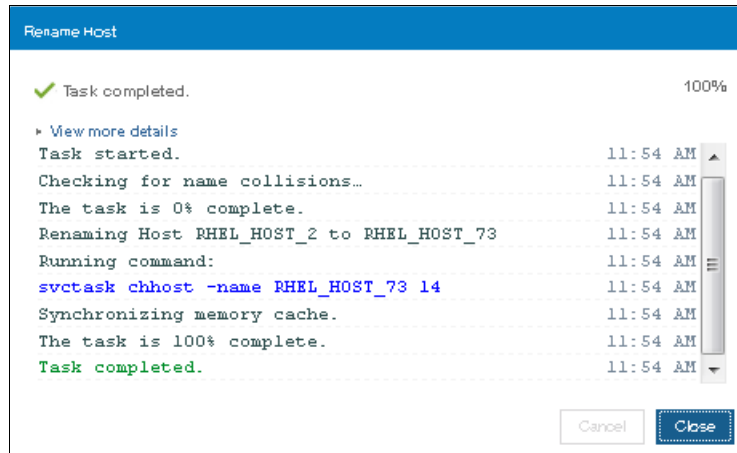

Figure 8-20 Rename a Host task completion
5. The selected host will be renamed and a task completion confirmation window will be shown as in Figure 8-20 on page 360.